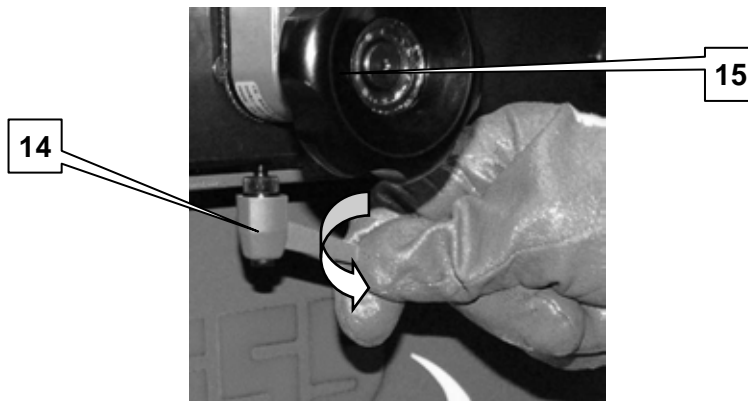

Fig. 4.63 – Knob locking
9.3 lock knob **15** by the lever **14** (fig. 4.63);